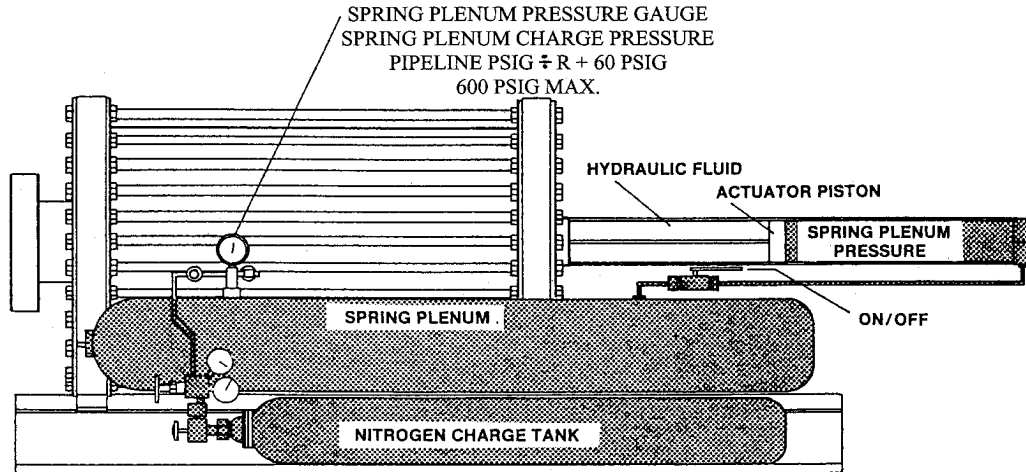

Figure 3-6. Spring Plenum
3. The pneumatic spring plenum must be charged with dry nitrogen for proper operation. Check the pressure in the spring plenum. There will be a factory-installed gage mounted to the plenum tank for reference (Figure 3-6). The proper plenum pressure is determined by the following formula: